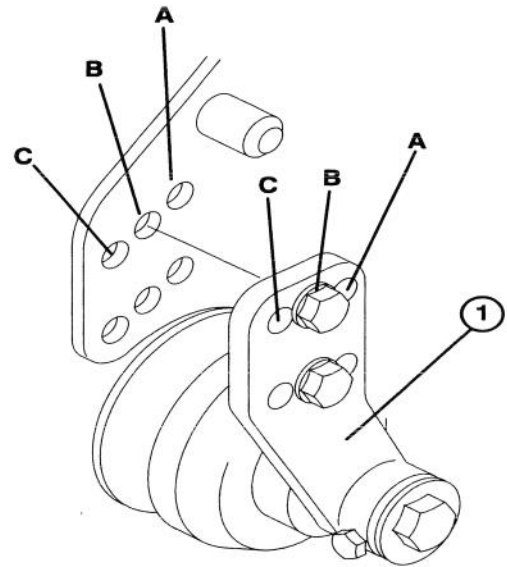

Figure 4
3. Loosely secure each roller bracket to the side plates with (2) flange-head capscrews and locknuts. Position the roller as shown in Figure 4. Position the capscrew heads on the outside of the roller brackets.